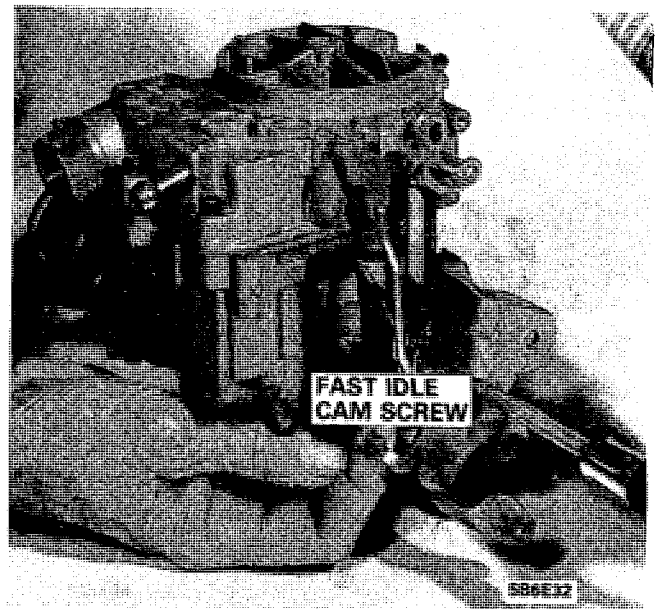

Figure 6E-32 - Removing Fast Idle Cam
5. Remove fast idle cam attaching screw from side of float bowl, Figure 6E-32. Remove fast idle cam from end of choke rod by rotating rod out of hole in fast idle cam. The upper end of the choke rod cannot be removed from the choke shaft until after the air horn has been removed from float bowl.